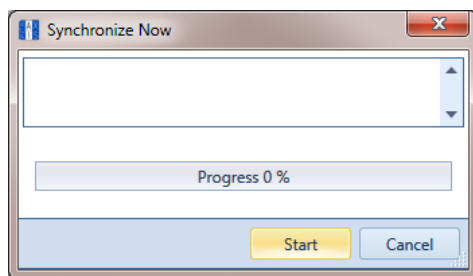

Figure 15-9. Synchronize Now
- 1 Click **Tools** > **Synchronize Now** to open the *Synchronize Now* dialog box. Then click **Start** (Figure 15-9).